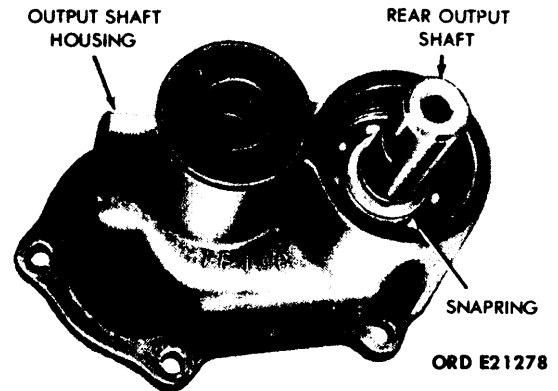

Figure 5-23. Removal of Output Shaft Snapping.
(1) Using a pair of snapping pliers, remove the output shaft snapping securing the shaft to the bearing. (See fig. 5-23.)
- b. Rear output shaft and sliding clutch sleeve. (See fig. 5-23 and 5-24.)